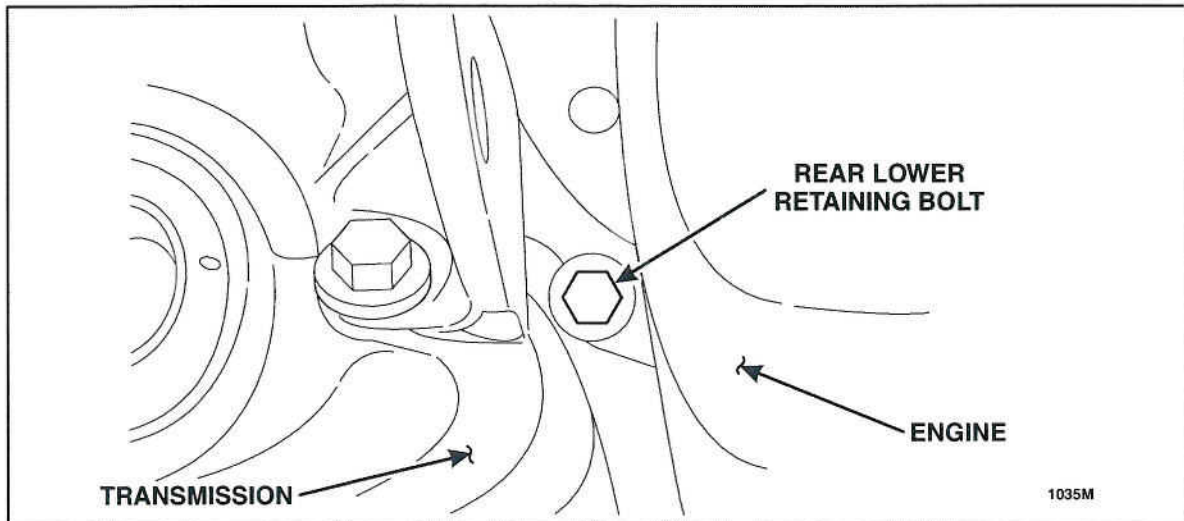

FIGURE 22
50. Remove the rear lower retaining bolt. See Figure 22.
10. Install the rear lower retaining bolt. See Figure 22.